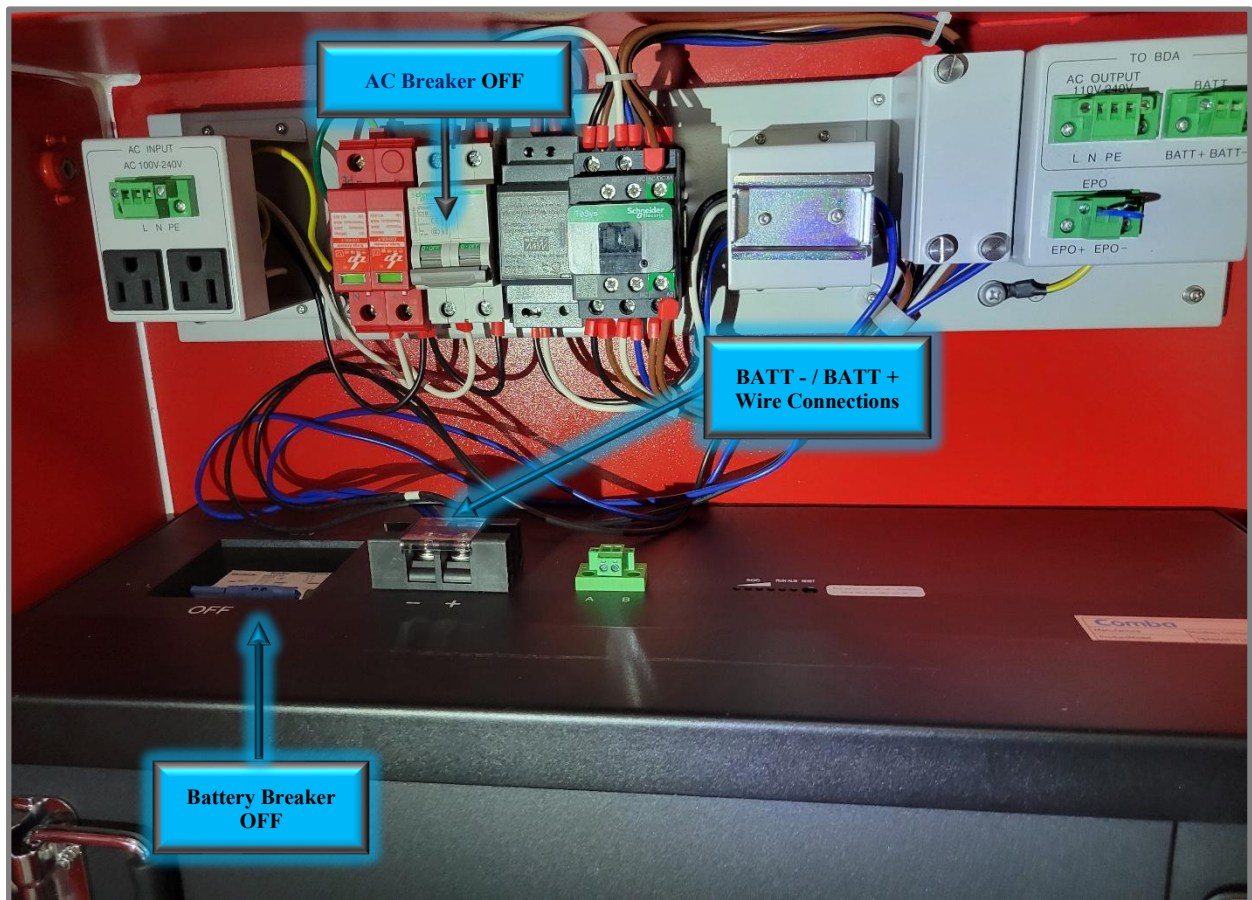

Figure 40: V3 BBU AC Breaker, Battery Breaker, and Battery Wiring
- Connect the wire(s) labeled “BATT+” to the battery positive (+) terminal; The wire(s) labeled “BATT-” to the battery negative (-) terminal as shown in Figure 40. Due to different design revisions and production batches, wires colors are in one of the following combinations: